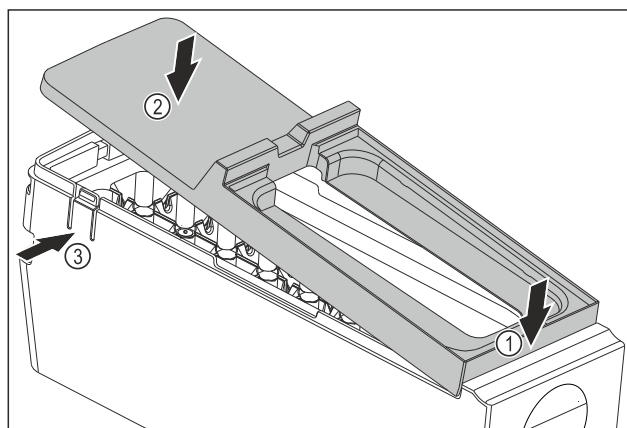

Fig. 108
- Installing the EasyTwist-Ice body cover: Place the cover on the front. Fig. 108 (1)
- Lower the cover at the rear. Fig. 108 (2)
- The cover locks into both tabs Fig. 108 (3) audibly.